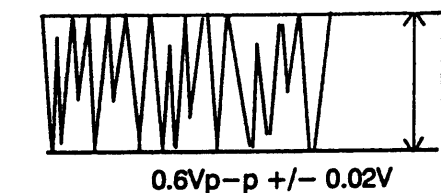

Fig.12.
1. Adjust R3514 to obtain the waveform as shown in Fig.12.